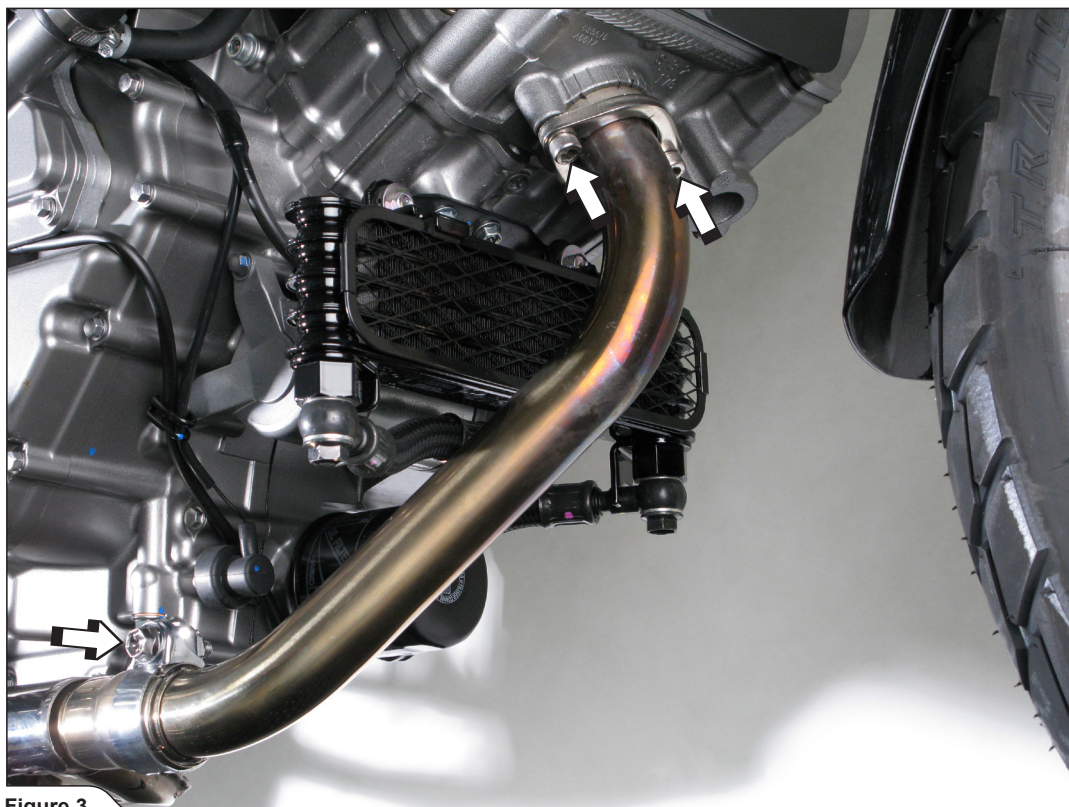

Figure 3
4. Loosen the marked header flanges' bolts and header - collector joint clamp (Figure 3).